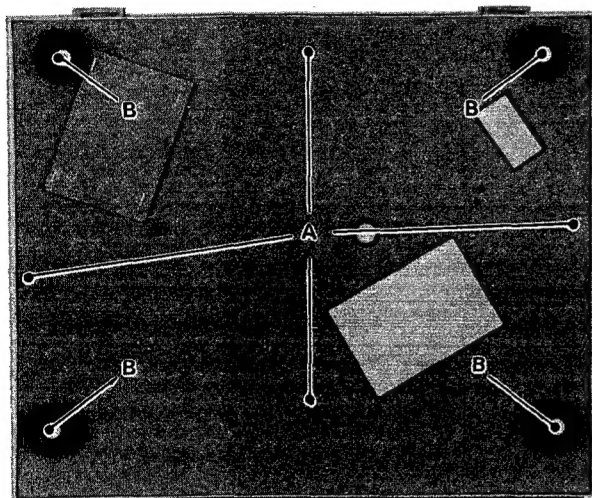

Fig. 3-1
1. Remove the eight screws (marked A and B) from the bottom cover as shown in Fig. 3-1.